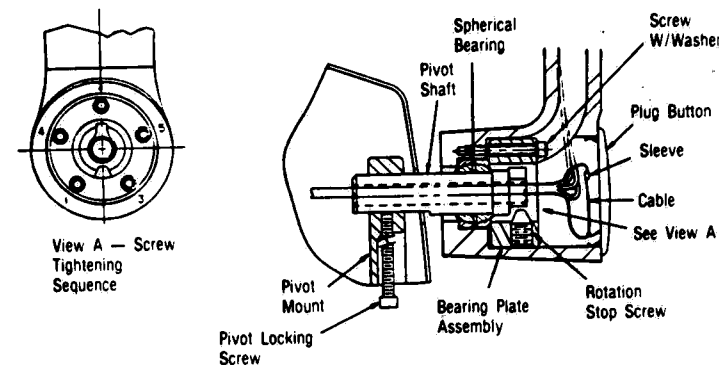

Figure 4-9. WIRE SIDE PIVOT SHAFT ASSEMBLY.
7. Route wires through center of bearing plate and secure bearing plate to yoke using five allen head screws and tighten in the sequence shown in Figure 4-9.